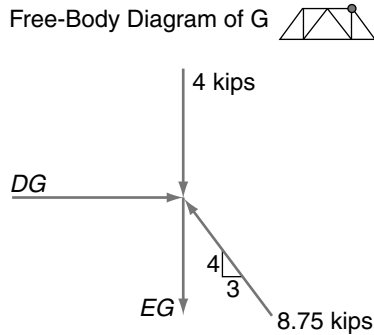

FIGURE 5-9
Step 16. Knowing $GH = 8.75$ kips C, move from pin H to a free-body diagram of G (Figure 5-9).
Do not forget to include the external 4-kip load in the free-body diagram of G (Figure 5-9).